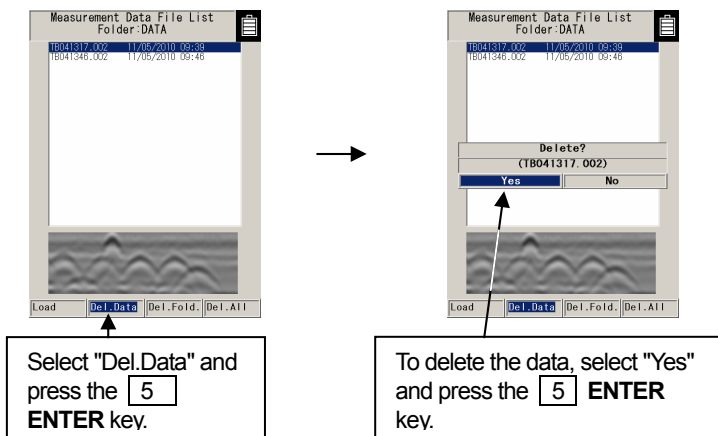

Figure 3-24 Deleting Saved Data
When the message "Delete? Yes/No" is displayed, select **Yes** using the cursor keys ◀▶, and press the **[5] ENTER** key. (See Figure 3-24.)
(1) Procedure for using the charger
a) Mount the battery in the charger (see Figure 3-24-(1))